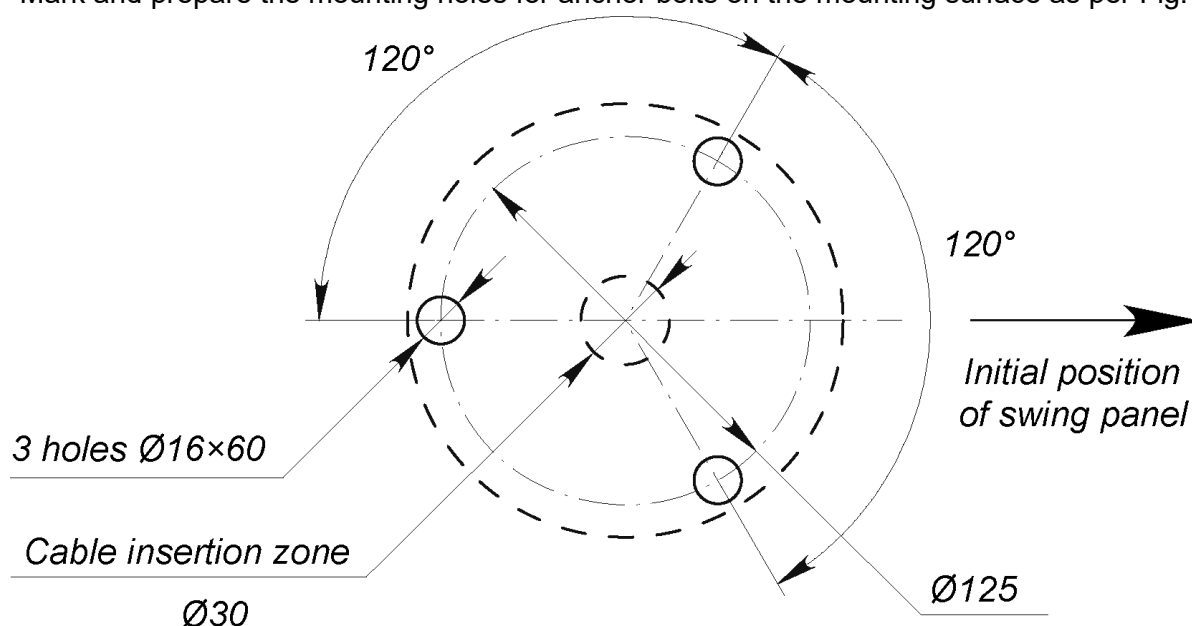

Figure 9. Mounting hole pattern¹
4. Mark and prepare the mounting holes for anchor bolts on the mounting surface as per Fig. 9.